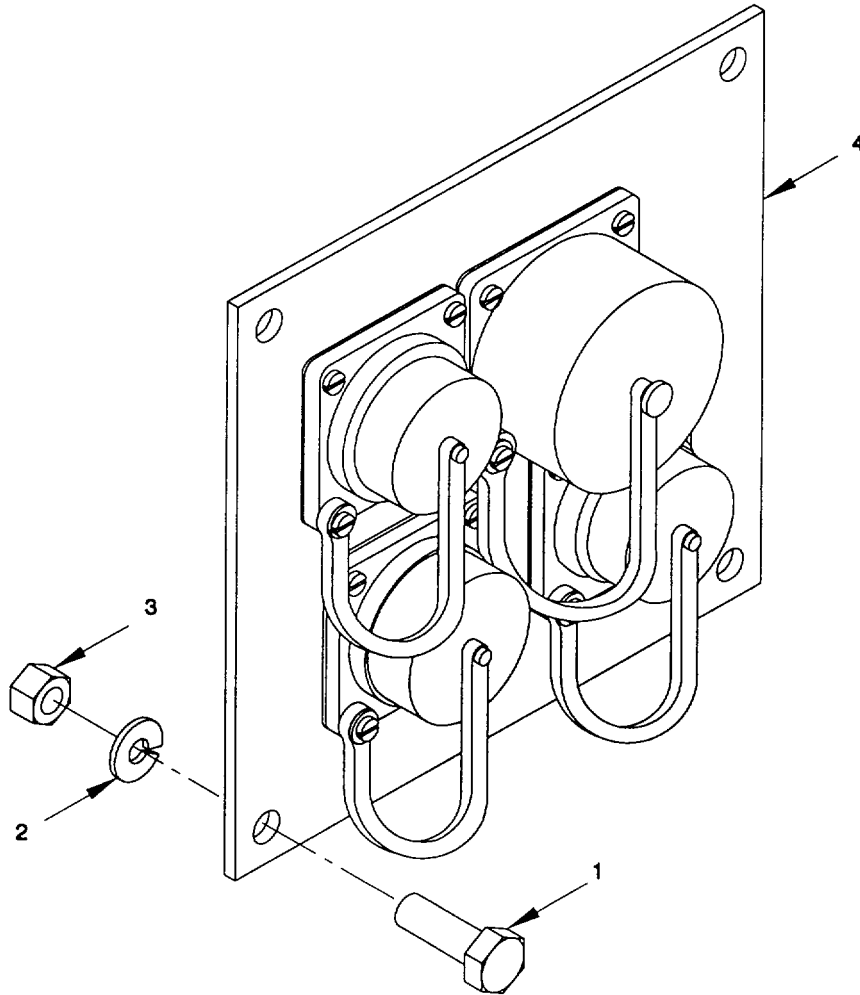

Figure 2-142. Typical Starboard Receptacle "A5"/Port Receptacle "A6" Assembly, Remove/Install
- (1) Inspect for broken or bent pins or receptacles. Repair as required.
- (2) Inspect for corrosion, deterioration, or broken or loose electrical wiring. Repair as required.
- b. *Remove.* (figure 2-142)
- (c) For removal of the receptacle 3A5J1 or 3A6J1 (9), remove four pan head screws (1). Remove receptacle (9) with cap (10) and gasket (11).
- (d) For removal of the standard (pin) receptacle 3A5J4 or 3A6J4 (13), remove four pan head screws (12). Remove receptacle (13) with cap (14) and gasket (15).
- (3) Extract pins (8) from receptacle (7) with extraction tool.
- (4) Insert replacement pins (8) in receptacle (7) using insertion tool.
- (5) Crimp connections to the 3A6J2 sockets and 3A6J3 pins using crimping tool. Refer to Appendix G.
- (6) Install receptacle:
- (a) For installation of receptacle 3A6J1, replace receptacle (9), gasket (11) and cap (10). Apply locking compound to pan head screws (1), Secure receptacle with four pan head screws (1).
- (b) For installation of receptacles 3A6J2 and 3A6J3, position receptacle (4 or 7), gasket (5) and cap (3). Apply locking compound to pan head screws (1), Secure with four pan head screws (1).
- (c) For installation of receptacle 3A5J4 or 3A6J4, replace receptacle (13), gasket (15) and cap (14). Apply locking compound to pan head screws (12), Secure with four pan head screws (12).
- (7) Replace receptacle assembly as per step b.
- d. Install. (figure 2-142)
- (1) Position receptacle assembly (4). Secure with four capscrews (1), lockwashers (2) and nuts (3).
- (2) Reconnect electrical wiring, as tagged, to receptacle assembly (4). Refer to Appendix G.